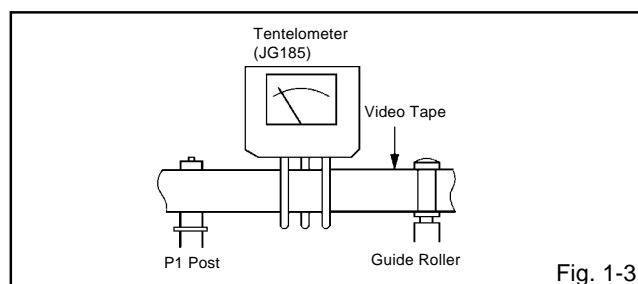

Fig. 1-3
- Install the tentelometer (JG185) as shown in **Fig. 1-3**. Confirm that the meter indicates $20 \pm 2\text{gf}$ in the beginning of playback.
- After confirmation and adjustment of Tension Post position (**Refer to item 1-2**), load the cassette type torque tape (**KT-300NR**) and set to the PLAY mode.